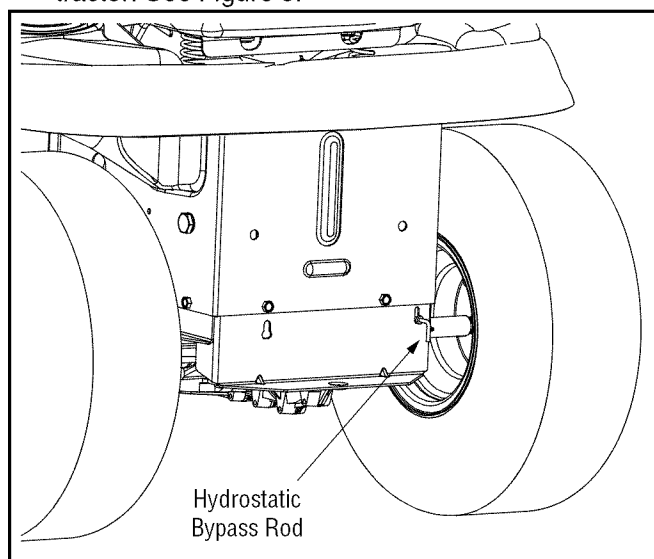

Figure 6
- Locate the hydrostatic bypass rod in the rear of the tractor. See Figure 6.